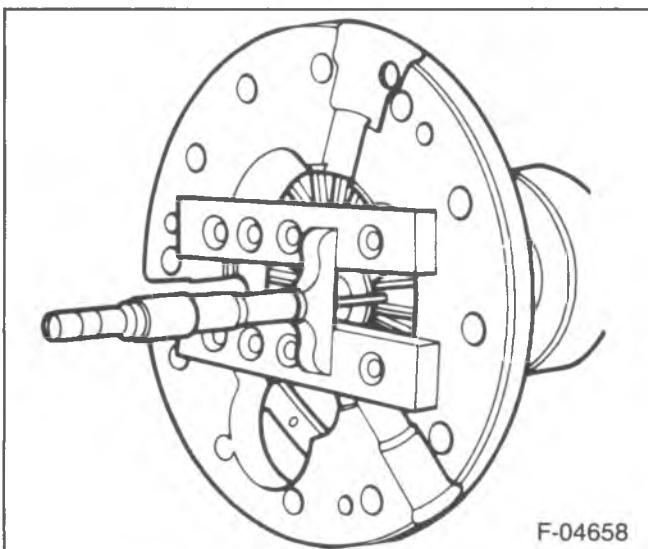

Figure 205—Side Gear Spread
- Measure the distance from the side gear face to the case half face (figure 205).